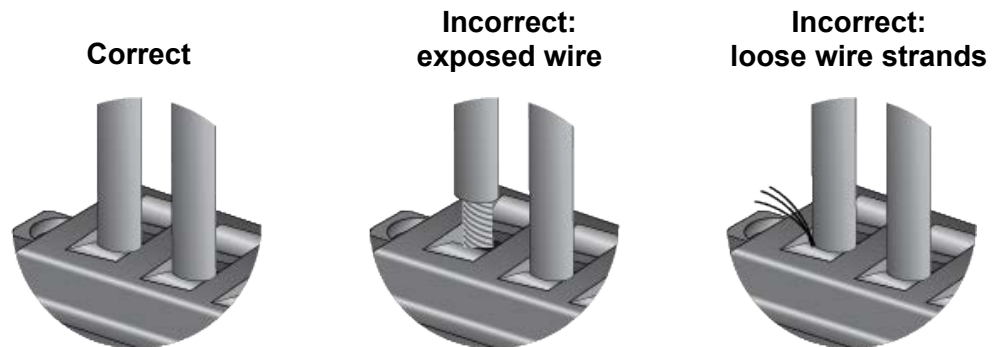

Figure 53. Verifying the Wire Installation
7. Verify that there are no exposed wires or loose wire strands. Refer to Figure 53 on page 99.
7. After attaching the wires, verify that there are no exposed wires or loose wire strands. Refer to Figure 53.